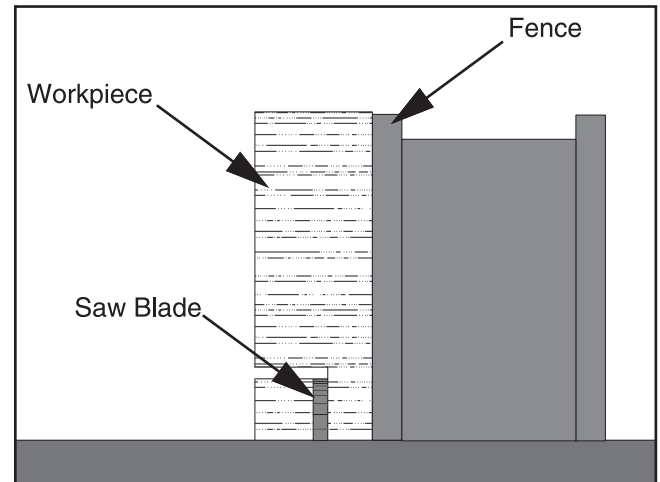

Figure 52. Second cut to create a rabbet.
8. Stand the workpiece on edge as shown in Figure 52.